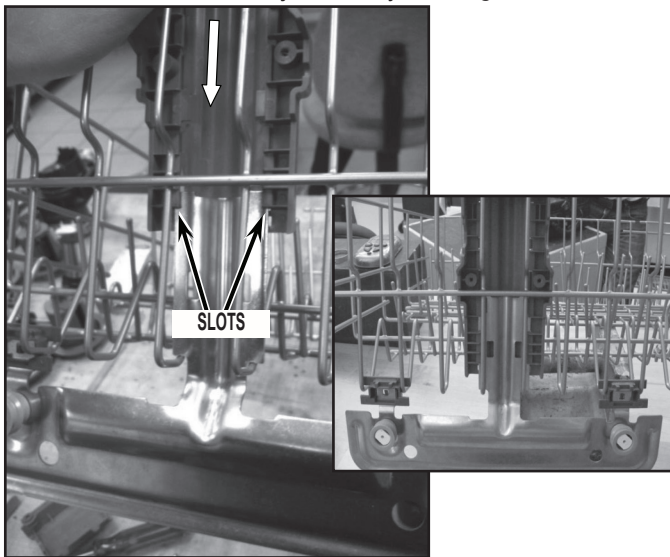

FIGURE 6
8. Once both clips are installed, the next step is to install the adjuster body. To do this, you need to align thin edge with the slots within the adjuster body. See *Figure 6*.